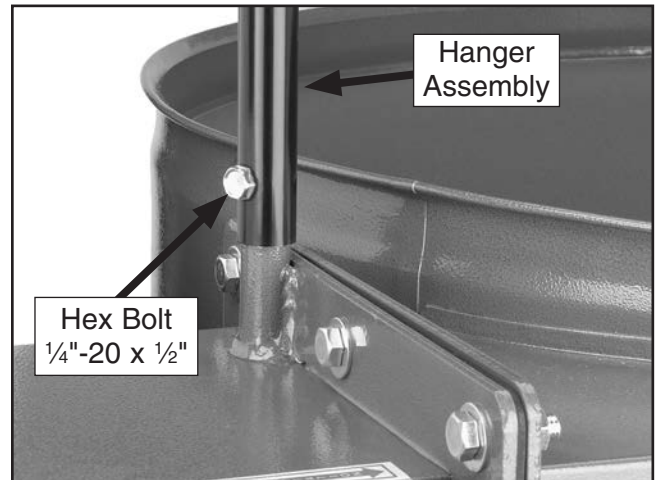

Figure 14. Hanger assembly mounted onto collector (G0671/G0672).
9. Mount the hanger assembly on the protruding rod on the collector with one (Model G0671/G0672) or two (Model G0673) 1/4"-20 x 1/2" hex bolts, as shown in **Figure 14**.